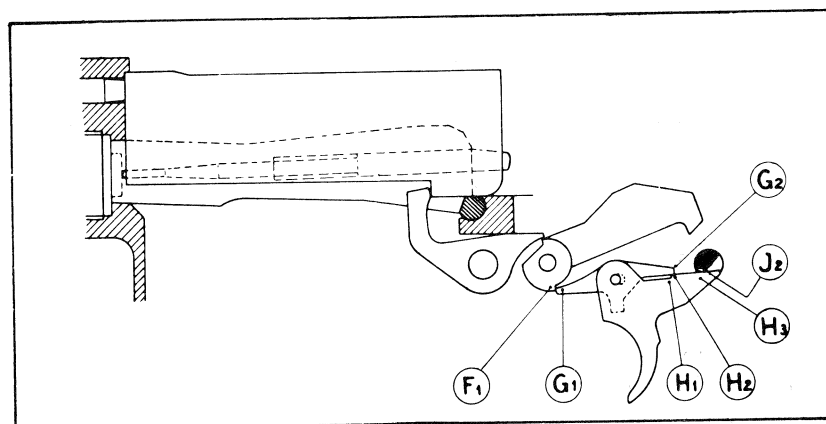

Fig. 15
- The safety sear is pushed by the slide, rotates and releases the hammer (fig. 15) which is right away retained in its front sear nose (F1) by the catch nose of the trigger sear (G1).
- The change lever axle has in the rear end (H3) of the trigger a less deep notch (J2) (fig. 15).
- The pressure of the finger on the trigger brings the lug (H2) in contact with the rear nose (G2) of the sear (fig. 15).
- The hammer rotates fast around its axle and its cocking nose (F1) strikes upon the rear notch (G1) of the sear and forces it to drive backwards against the upright part of the trigger lug (H2) (fig. 15).
- When the pressure of the finger on the trigger stops it returns to the starting position by the pressure of the spring making the support of the trigger (H2) disappear, allowing the sear to retrocede and take its starting position (fig. 15).